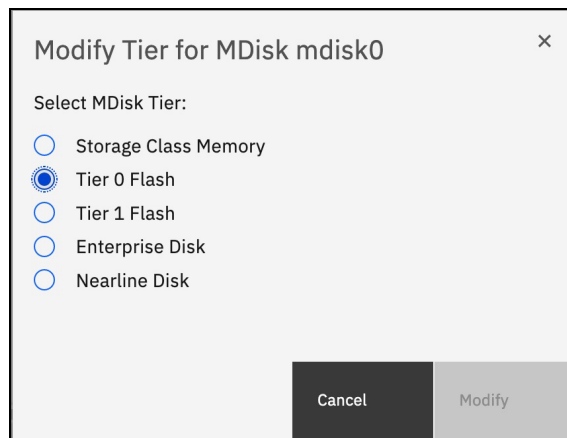

Figure 4-28 Selecting the MDisk tier
3. A new window opens with options to change the tier (see Figure 4-28).